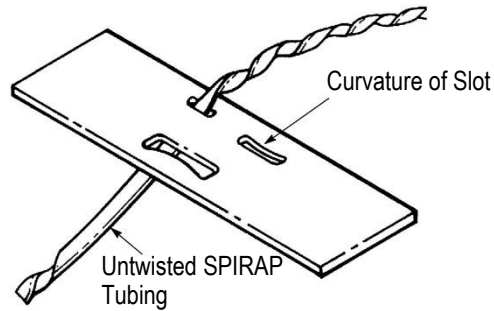

Figure 3
4. Thread SPIRAP tubing through slot and untwist a short length of it. Curvature of SPIRAP tubing must follow curvature of slot as shown in Figure 3.